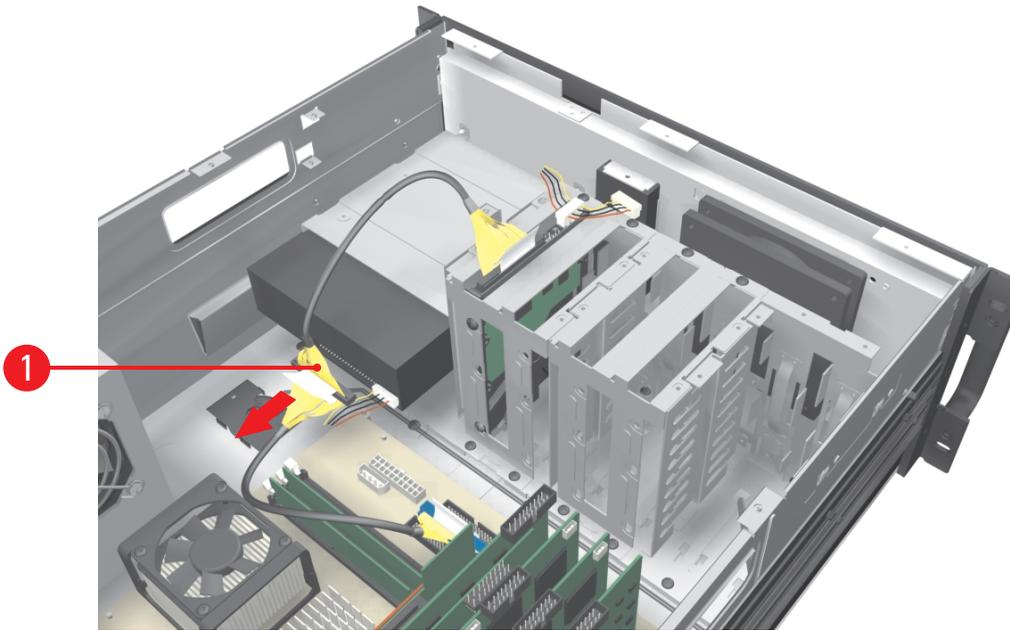

Figure 7. Removing the IDE Data Cable
1. Remove the IDE data cable from the existing CD/DVD by carefully pulling the plastic cable tab away from the rear of the drive. Refer to Figure 7.